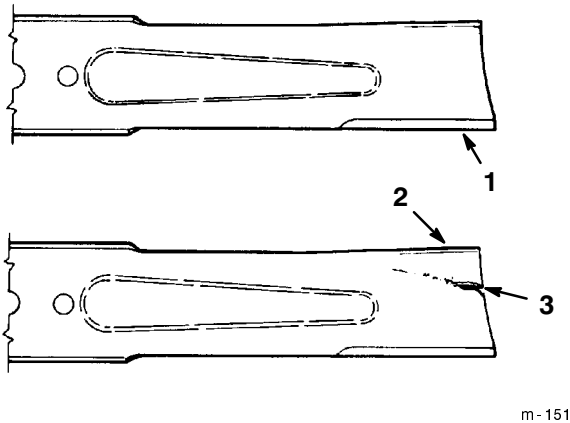

Figure 22
1. Inspect the cutting edges (Fig 22). If the edges are not sharp or have nicks, remove and sharpen the blades. Refer to Sharpening the Blades on page 16.
2. Inspect the blades, especially the curved area (Fig. 22). If you notice any damage, wear, or a slot forming in this area (item 3 in Fig. 22), immediately install a new blade.